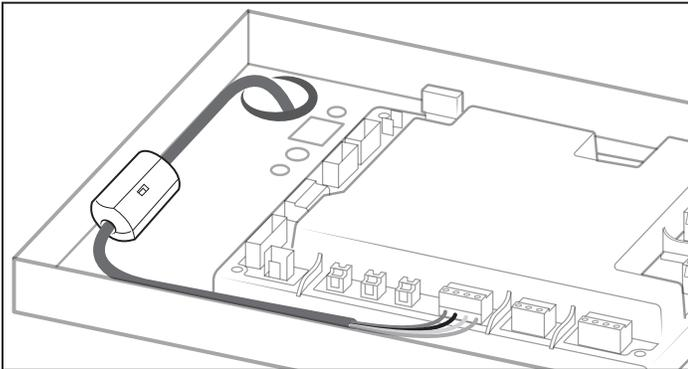

Figure 22. Install Ferrite
- To reduce electromagnetic noise, near the RS-485 connector install a snap on ferrite to the RS-485 cable, see figure 22.
**NOTE:** When the heater is powered by 120 VAC, to reduce electromagnetic noise, run the RS-485 cable through a snap-on ferrite close to the RS485 connector, as shown in figure 22. Contact Fluidra customer service for a ferrite kit (PN# R1029700), provided free of charge. (Ferrite specs: Fair-Rite PN# 0431164281).